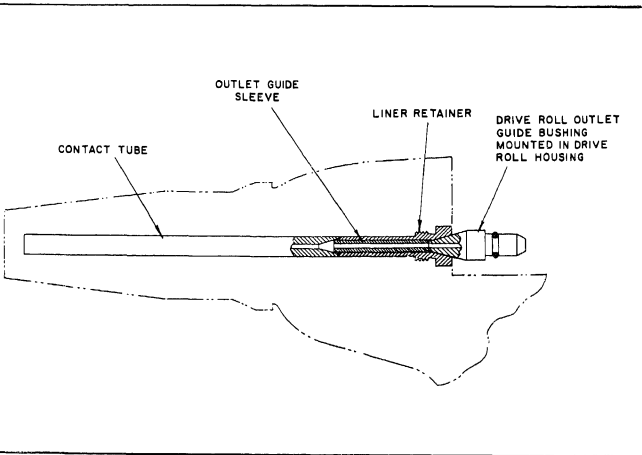

Figure 15. Final Position of Wire Guide Fittings in Gun Barrel
- f. Slide contact tube with collet and nut onto wire protruding from Gun. Push contact tube into barrel until it touches liner retainer (Fig. 15).